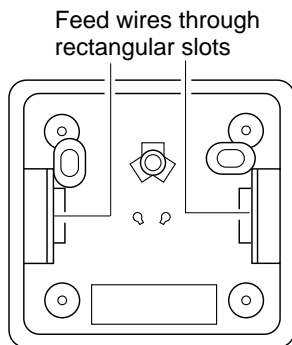

Figure 32 - Back View of Thermostat Base
5. Feed the electrical wires through the rectangular slots on each side of the base (see Figure 32, page 17).